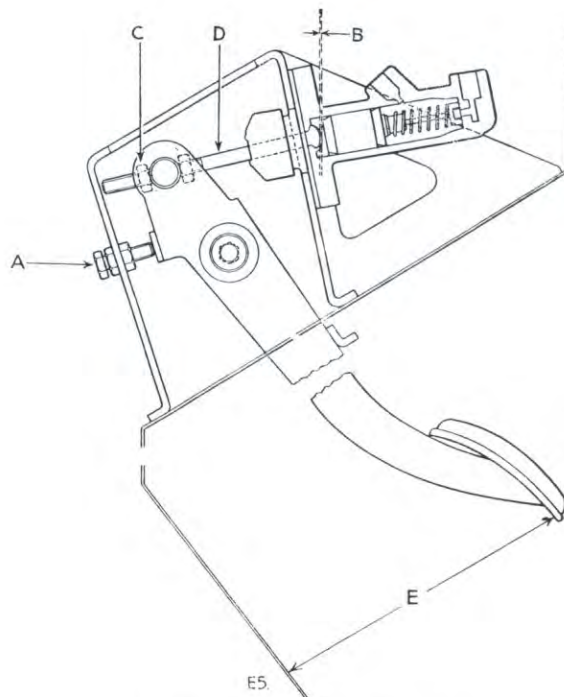

Fig. 3—Clutch linkage setting
1. Check the free play between the master cylinder piston and the push rod. See Fig. 3. This free play should be $\frac{1}{16}$ in. (1.5 mm) at the push rod and is felt as approximately $\frac{5}{16}$ in. (8 mm) at the pedal pad. If the movement is less than the given figure: